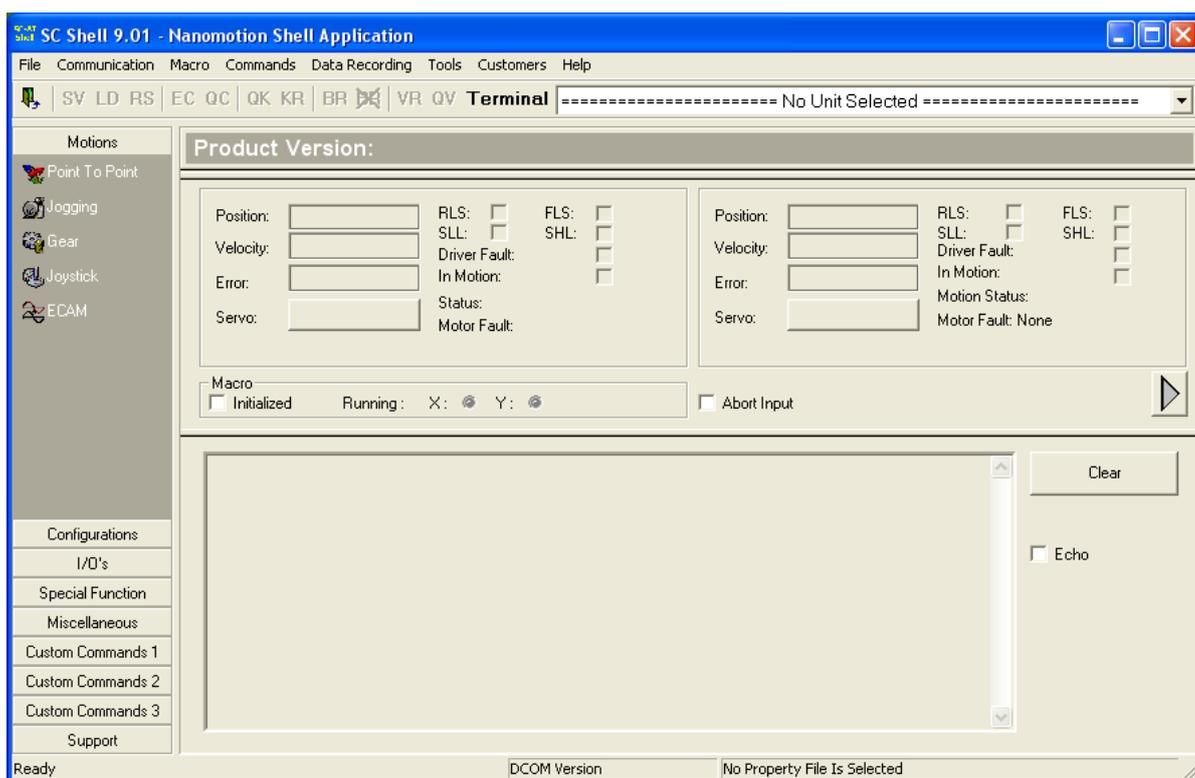

Figure 2: Nanomotion Shell Application Initial Main Screen
- Click the "SC-AT Shell" icon located on the desktop to run the Nanomotion Shell Application. The Nanomotion Shell Application initial main screen appears, see Figure 2: